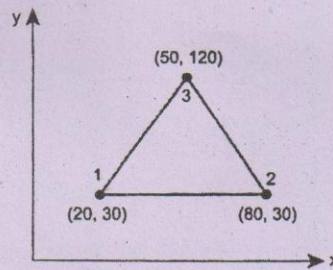

Fig 13(a)
13. (a) Determine the stiffness matrix for the CST Element shown in Fig 13(a). The coordinates are given in mm. Assume plane strain conditions.  $E = 210$  GPa,  $\nu = 0.25$  and  $t = 10$  mm. (16)